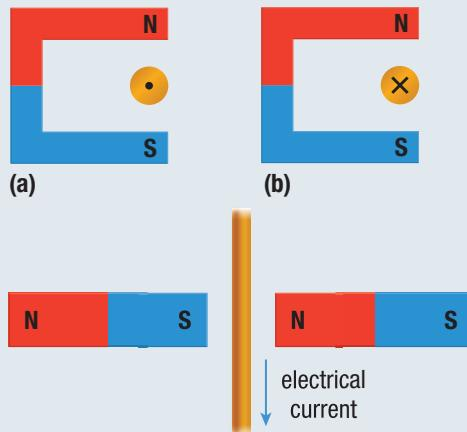

Figure 8
1. Copy each diagram in Figure 8 into your notebook, and draw the magnetic field lines of both the magnet and the conductor. Then determine the direction of the force on the conductor. **T/I C**